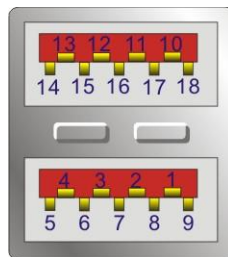

Figure 3-29: External USB 3.2 Gen 2 Connectors Location
- CN Location:** See **Figure 3-29**